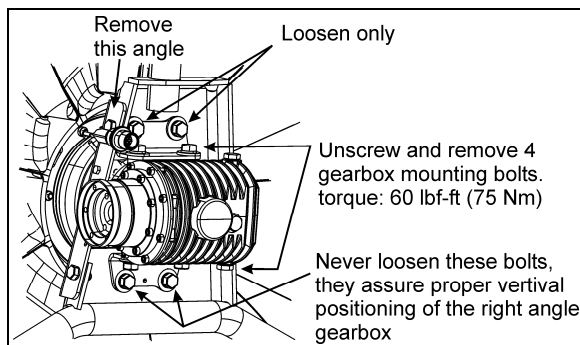

FIGURE 30: RIGHT ANGLE GEARBOX MOUNTING 05126
5. Dismount the angle (see fig. 30).